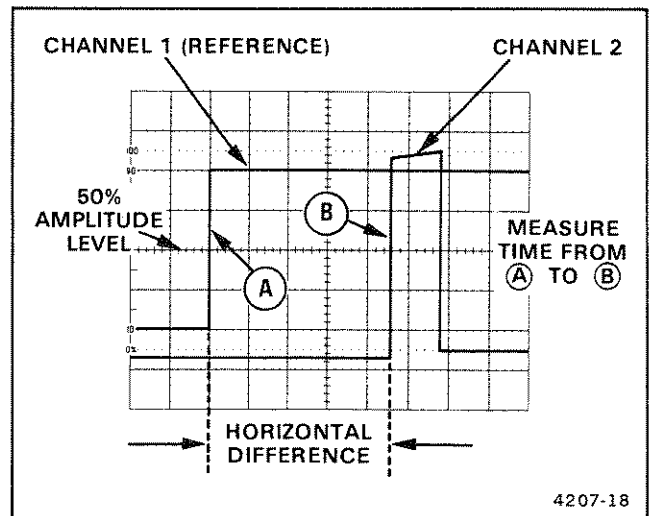

Figure 2-16. Time difference between pulses on time-related signals.
- Measure the horizontal distance between the 10% and 90% points (between Points A and B of Figure 2-16) and calculate the time duration using the following formula:
- Set the A SEC/DIV switch to a sweep speed which provides three or more divisions of horizontal separation between the reference points on the two displays. Center each of the displays vertically (see Figure 2-16)